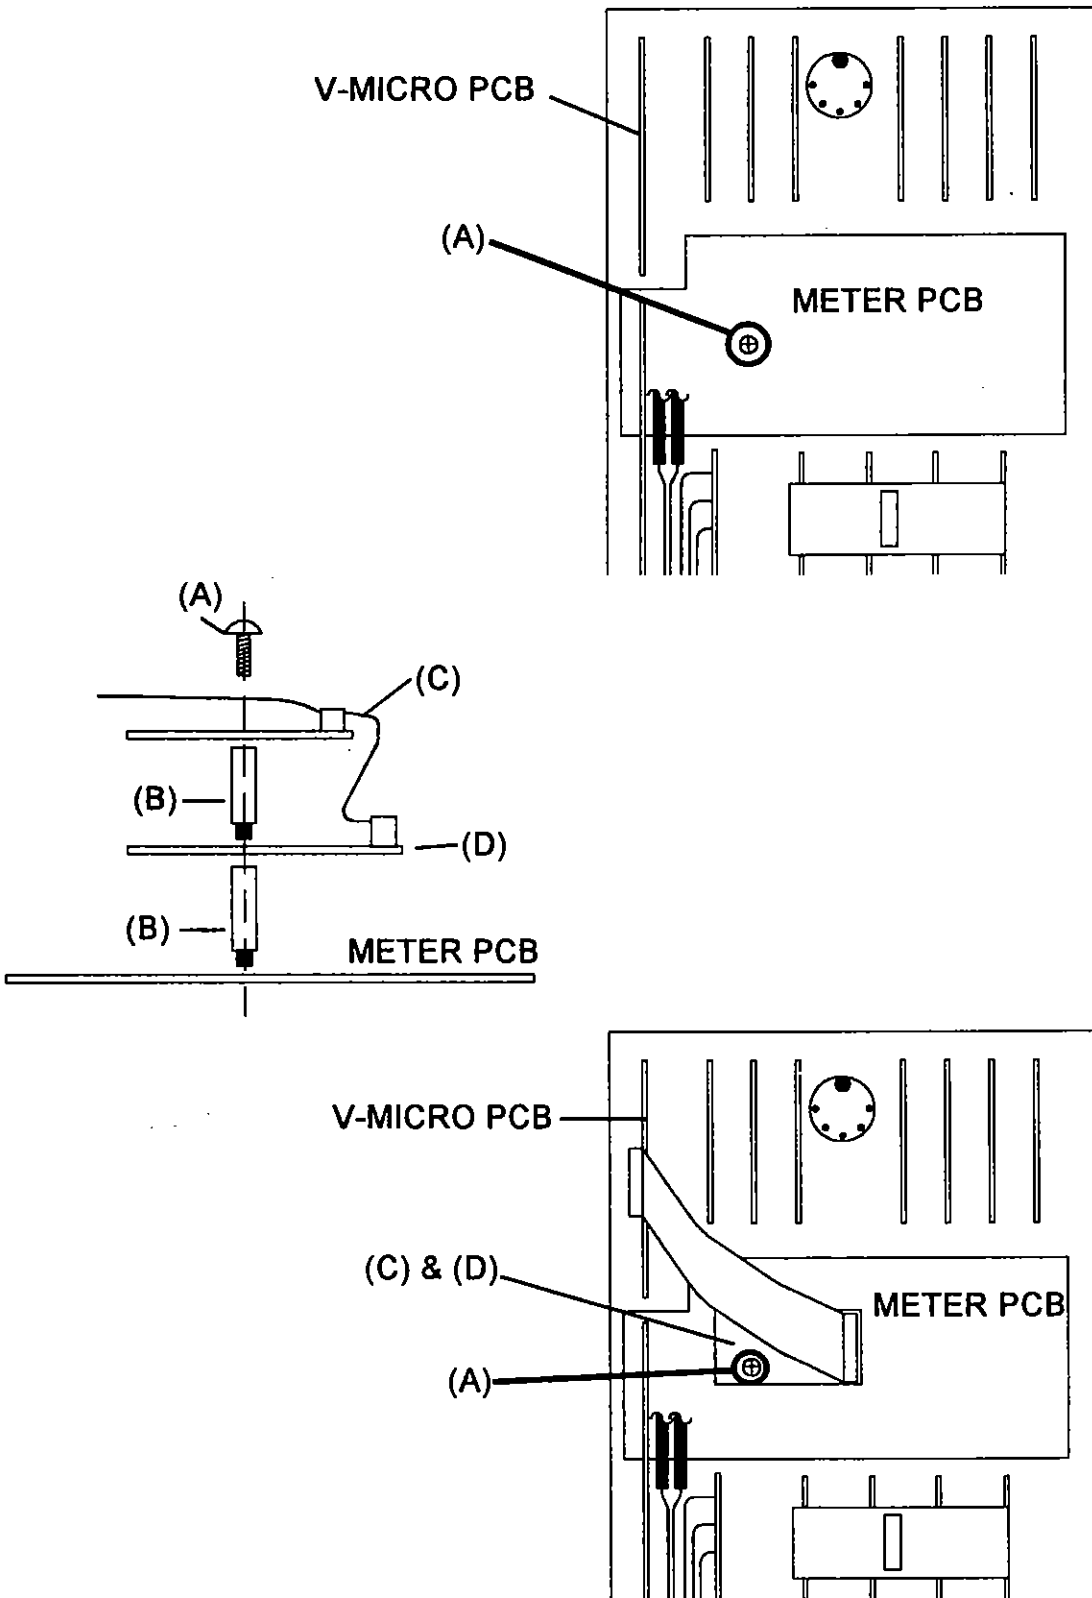

Fig. 15.
8. Locate the M3 screw (A) on the Meter PCB and unscrew it. *see Fig. 15.* Unpack the two M3 x 25mm pillar screws (B) in the kit and use them to mount the VROM PCB (C) and SMPTE PCB (D) firmly to the Meter PCB as shown.